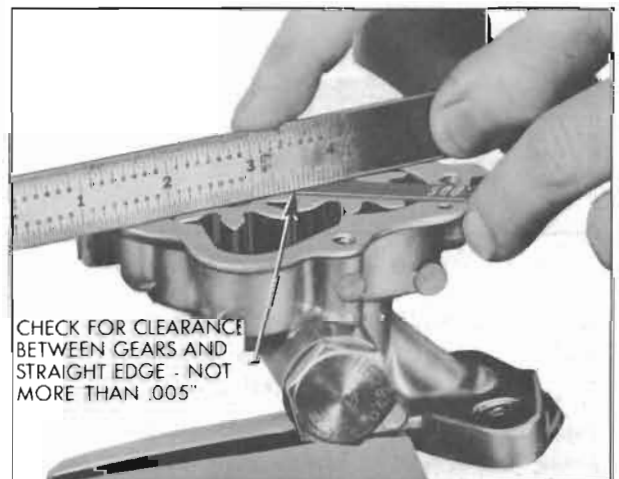

Figure 2-41—Checking Clearance of Gears at Cover
8. Check for clearance between gears and cover by using a steel straight edge as shown in Figure 2-41.